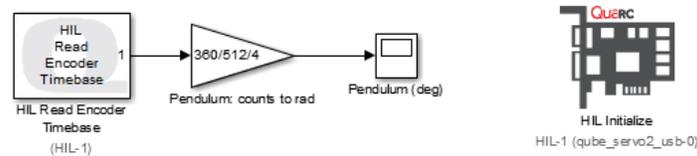

Figure 2.1: Displays measured pendulum angle
Based on the model already designed in Hardware Interfacing laboratory experiment, design a model that measures the pendulum angle using the encoder as shown in Figure 2.1.
2. Build the **SIMULINK**[®] diagram shown in Figure 2.1. Enter $360/(512 * 4)$ in the encoder sensor gain to measure the pendulum angle in degrees.